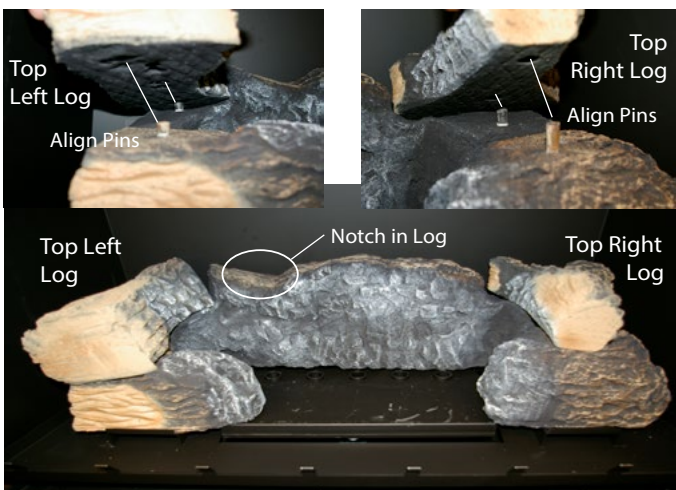
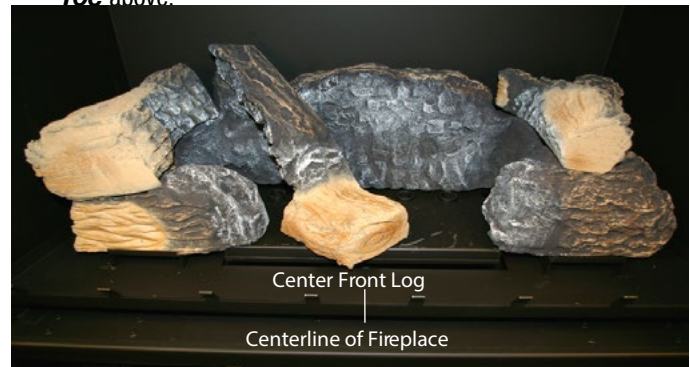

Figure 10c. Top Left / Right Log.
Figure 10d. Placing Centre Front Log.
Step 4. Place the Top Right log as shown in **figure 10c**. using the (4) four alignment pins protruding from the top of the Right and Left Bottom Logs, as shown in **figure 10c**. With these pins align the Top Right and Left logs using the predetermined alignment holes cast into the underside of the logs, as shown above, **figure 10d**.
Step 5. Place the Centre Front log, **Figure 10d** below, as shown using the notch cast in the Bottom Rear log as shown in **figure 10c** above.